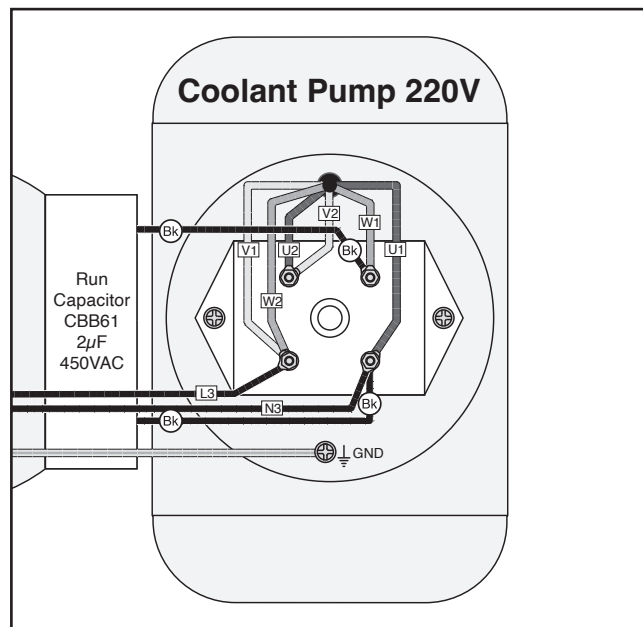

Figure 15. Coolant pump rewired for 220V.
16. Move U2 and V2 wires to open terminal on motor junction box (see **Figure 15**).
17. Coolant pump rewiring to 220V should match **Figure 15**.